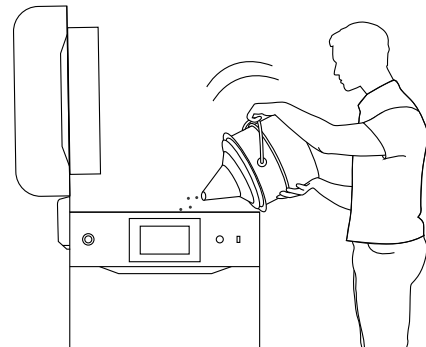

Fig. 6.6 Filling the print chamber with powder using the funnel.
5. Once the positioning process is finished, fill the Feed Bed up with the desired powder. You may use the powder funnel provided in the Dedicated Powder Tools (fig. 6.6). Press **DONE**.